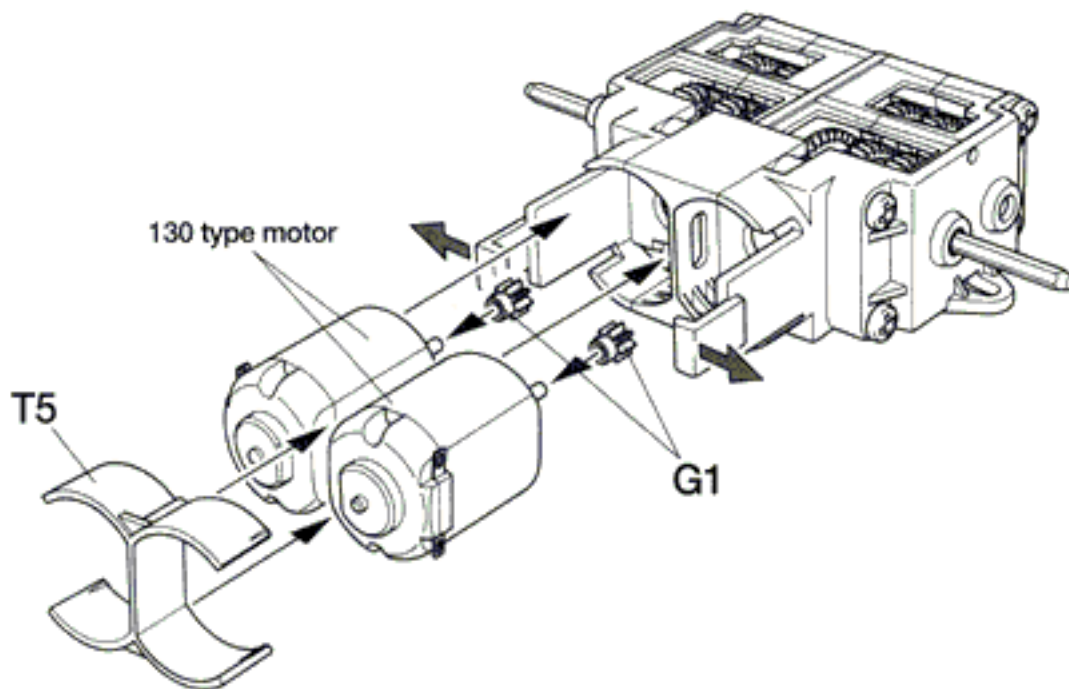

Figure 1.30
25. Install the motors into the front of the gear assembly making sure that the electrical contacts face outward. See figures 1.30 and 1.31.
26. Slip on the motor retaining band (T5) in between the motors, as shown in figures 1.30 and 1.32.